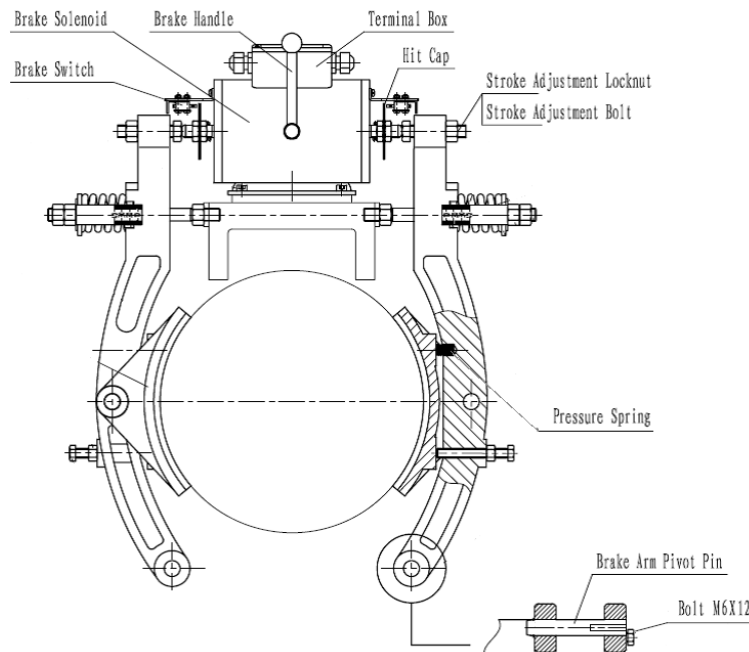

Figure 18 Brake Assembly
1. Install the new brake onto the gear box, and attach it with the bolts M8x20 and washers, but do not tighten. See Figure 18.
2. Adjust the position of the brake, making sure that the axis of the solenoid, the Spring Threaded Stud and the Stroke Adjustment Bolt are aligned in the same plane, and tighten the bolts M8x20, securing the position of the brake. See Figure 18.